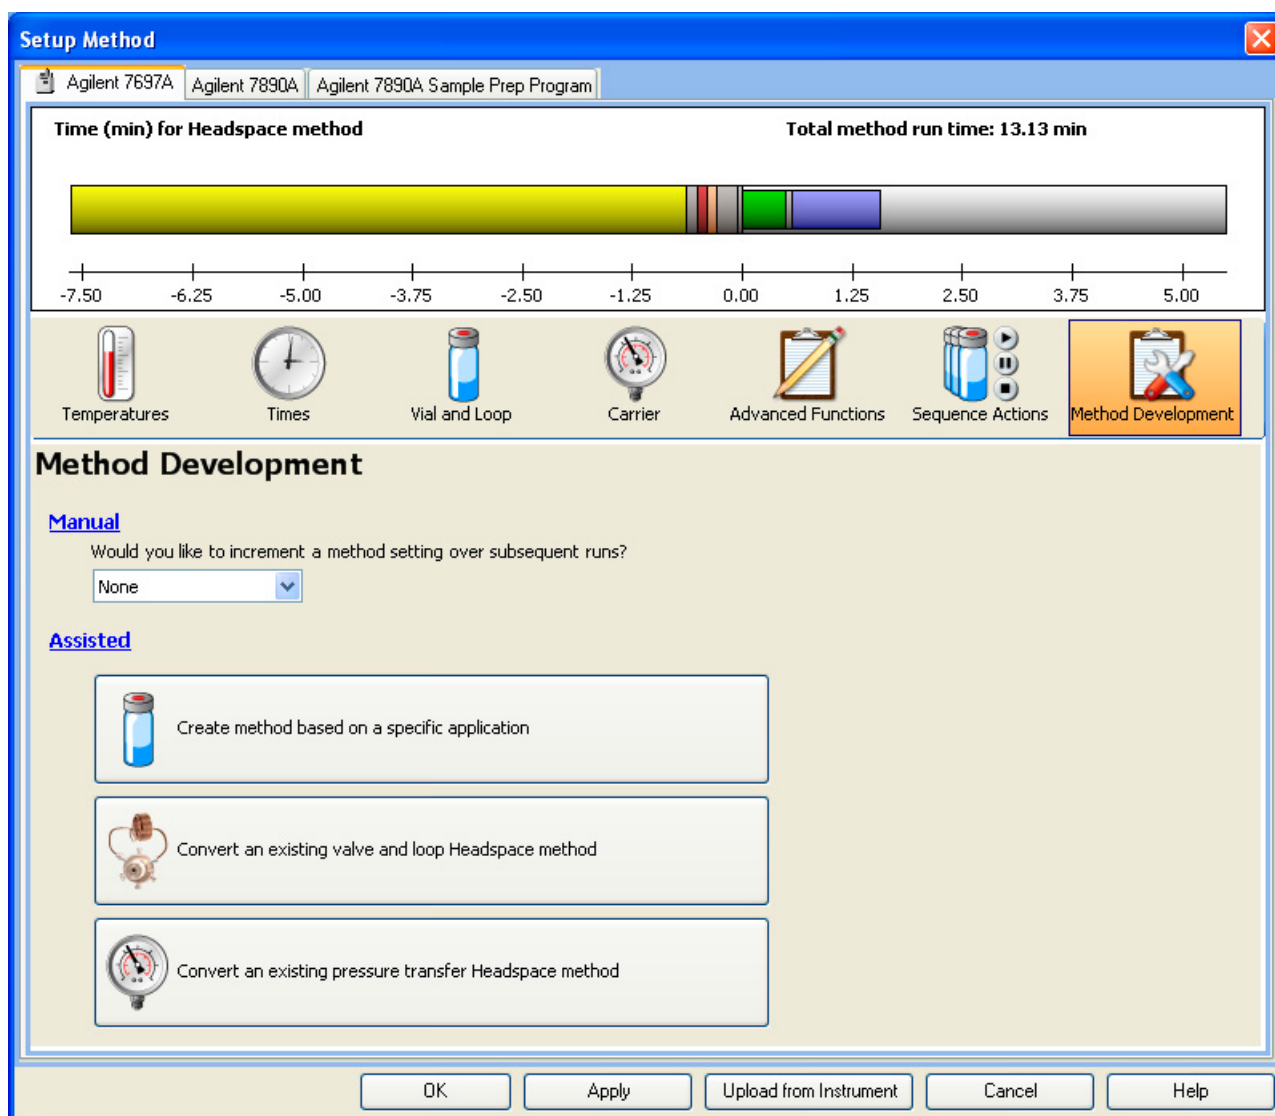

Figure 20 Setting the Method Development parameters
- 9 Use **Method Development** (Figure 20) when developing new methods. Wizards are provided here to help convert existing methods. Refer to the software help for more information.